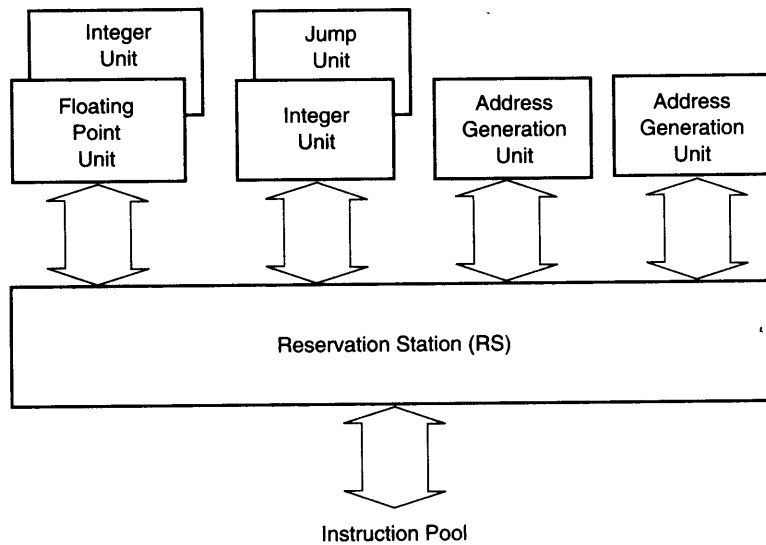

FIGURE 16-14 The Pentium Pro dispatch and execution unit (DEU).
The dispatch and execute unit (DEU) retrieves decoded instructions from the instruction pool when they are complete, and then executes them. The internal structure of the DEU is illustrated in Figure 16-14. Notice that the DEU contains three instruction execution units: two for processing integer instructions and one for floating-point instructions. This means that the Pentium Pro can process two integer instructions and one floating-point instruction simultaneously. The Pentium also contains three execution units, but the architecture is different because the Pentium does not contain a jump execution unit or address generation units, as does the Pentium Pro. The reservation station (RS) can schedule up to five events for execution and process four simultaneously.